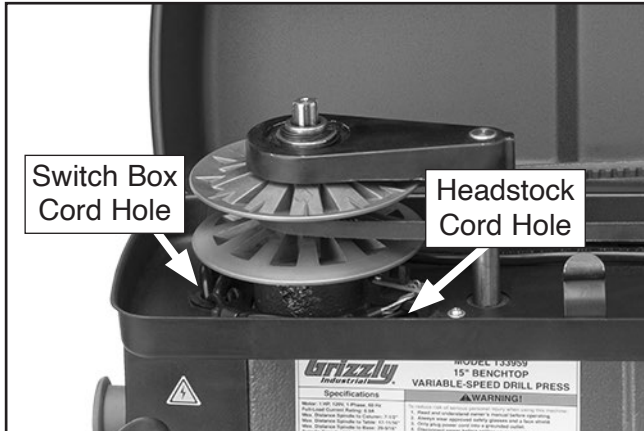

Figure 73. LED and laser module cords fed into headstock and switch box (T33959 shown).
- Open belt cover and identify which cord is connected to LED by lightly tugging cords fed into headstock (see **Figure 73**).
- Follow cord to where it is fed into switch box (see **Figure 73**).